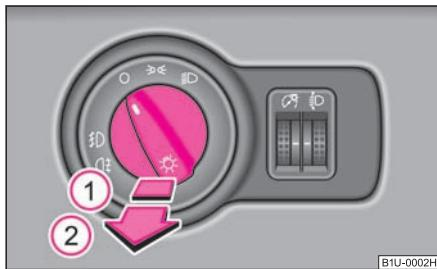

Fig. 41 Dash panel: Light switch
- First of all turn the light switch into position  or  ⇒ fig. 41.
- Pull the light switch into position ①.
- Pull the switch into position ②.